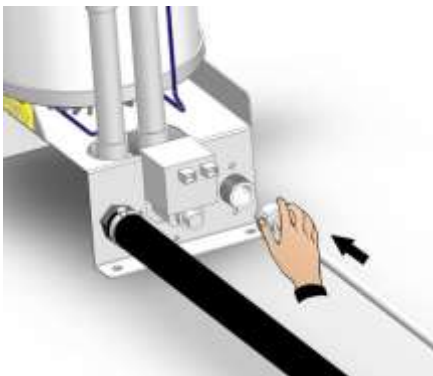

Fig. 21
4. Connect the water charge line to GAS ¾ coupling of the electrovalve (fig. 21 and 22).